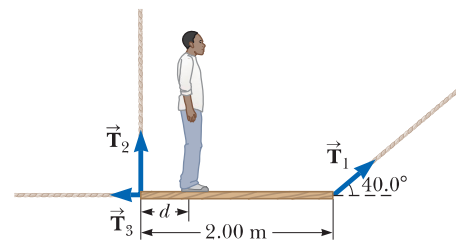

Figure P12.25
25. A uniform plank of length 2.00 m and mass 30.0 kg is supported by three ropes as indicated by the blue vectors in Figure P12.25. Find the tension in each rope when a 700-N person is $d = 0.500$ m from the left end.